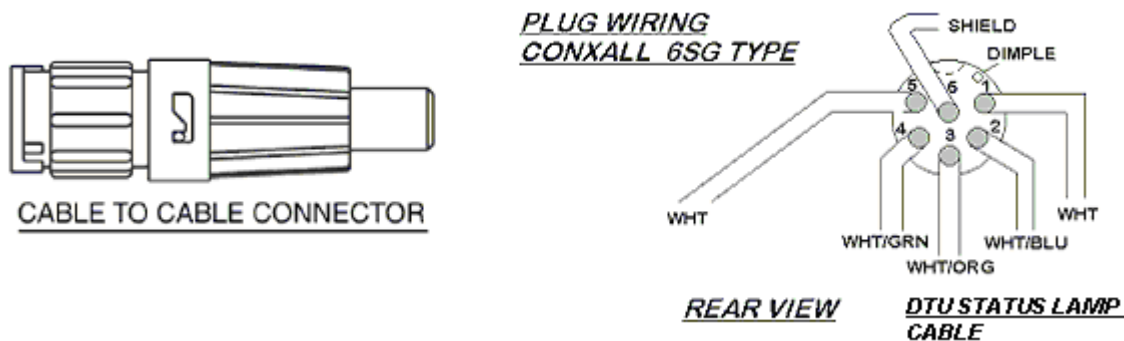

Figure B- 11: DTU Status Lamp Connector Wiring
- ❑ 020 Refer to the illustration Figure B- 11 and connect the cable to the included ConXall™ connector using the socket configuration shown. Splice a short wire lead to the cable shield with a shrink-on solder sleeve to make the Pin 6 shield connection.